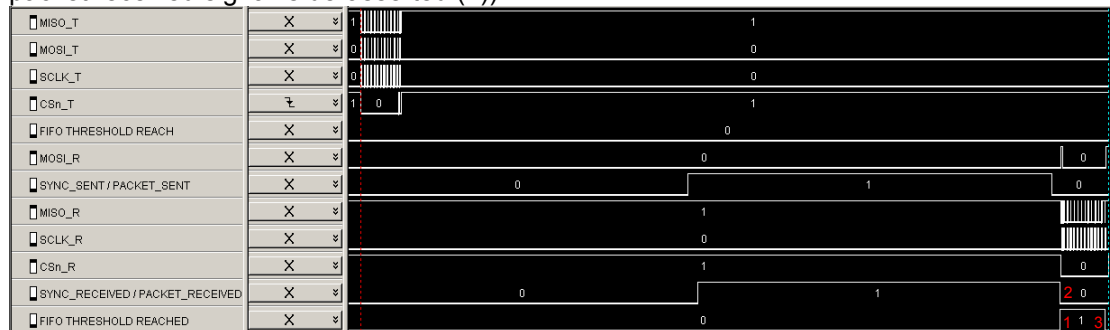

Figure 9. IOCFGx = 0x01 (End of Packet Reached)
For the transmission showed in Figure 9, the RX FIFO threshold is changed to 16 (FIFO_THR.FIFO_THR = 3). Since only 13 bytes are to be received in the RX FIFO, the GDOx pin is not asserted before the whole packet has been received (1) (same time as the packet received signal is de-asserted (2)).